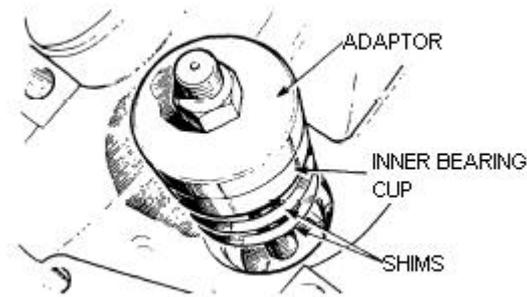

Figure 218 Installing the Inner Pinion Bearing Cup
- c. Insert the selected shims in the inner bearing cup seat, position the inner bearing cup in the casing, fit the second adaptor (Table 3, Serial 56) onto the screw press and secure it with the nut (Figure 218).